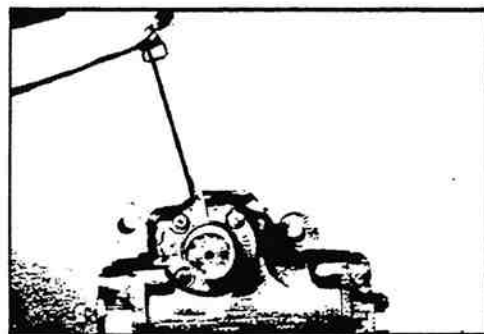

Figure 11-7. Removing Seal.
6. Remove and discard the dirt and water seal (34) from the trunnion cover (49) (figure 11-7).